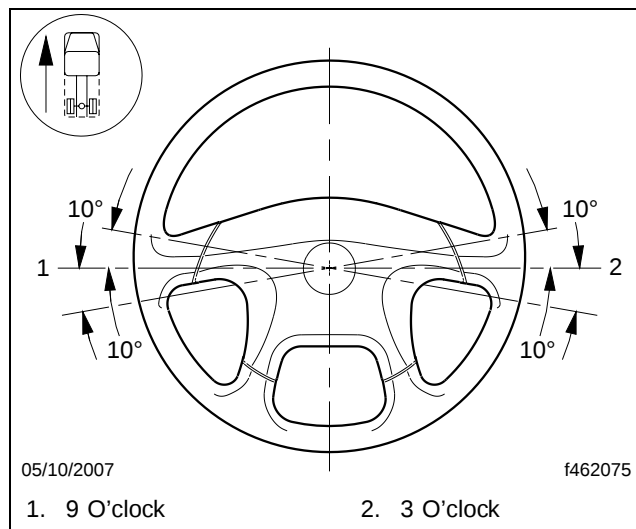

Fig. 7, Steering Wheel Centered
21. Make sure that the steering wheel is within 10 degrees of center as shown in **Fig. 7**. If it is not, remove and center the steering wheel.